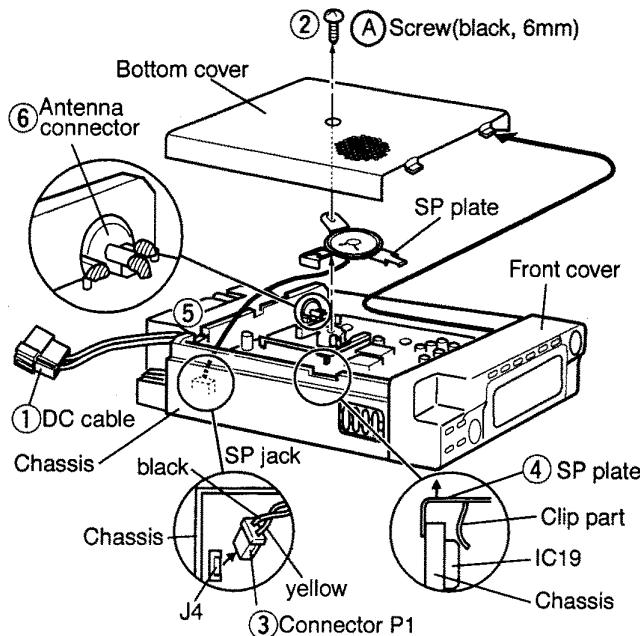

Fig 1
- ① Turn power OFF, then disconnect the DC cable.
- ② Unscrew 1 screw Ⓐ as shown Fig 1, then remove the bottom cover.
- ③ Disconnect the speaker cable from "J4".
- ④ Lift up the clip part of the SP plate (at IC19) then remove the SP plate.
- ⑤ Remove the bush of DC cable from the chassis.
- ⑥ Unsolder jumper leads from the antenna connector (3 points).